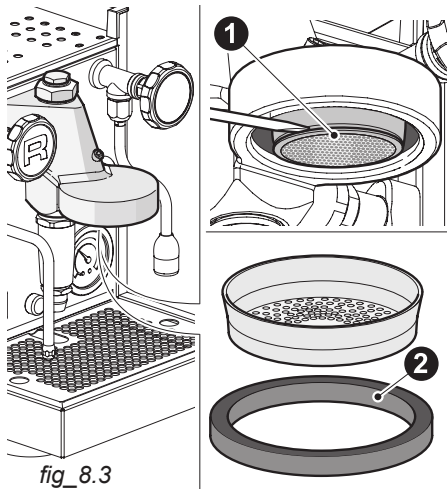

fig. 8.3
1. Using a small slotted screwdriver, pry the inner edge of the sprayer (1) and remove it together with the gasket (2) as shown in fig. 8.3.